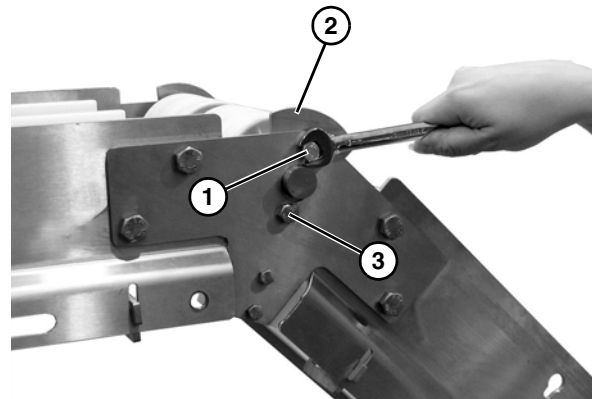
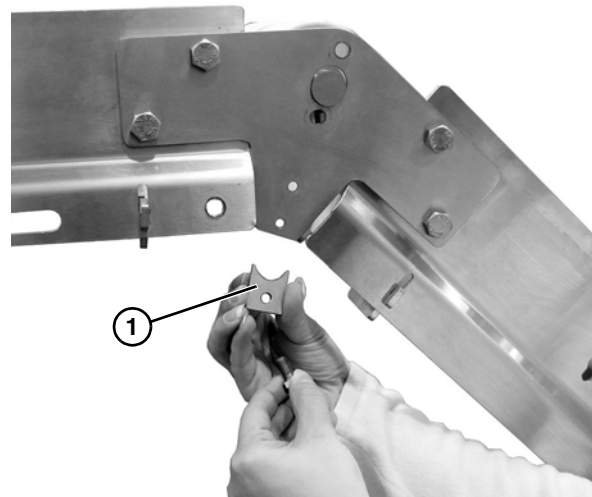

Figure 57
Figure 58
2. Remove cap screw (**Figure 57, item 1**) and edge guide plate (**Figure 57, item 2**) from each side of the conveyor.
3. Remove the cap screw (**Figure 57, item 3**) and shaft clamp (**Figure 58, item 1**) from each side of the conveyor.